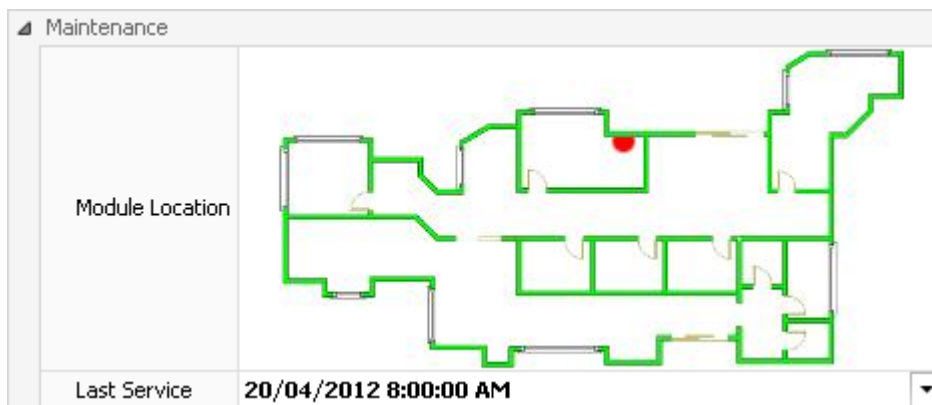

Figure 101
- Powered modules – Date & Time the last service / battery change. (*Figure 101*)
- All modules – Photo / map of physical location of modules. (*Figure 101*)